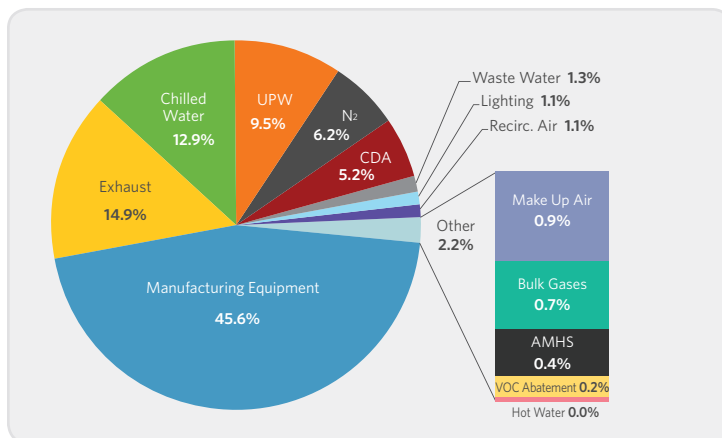
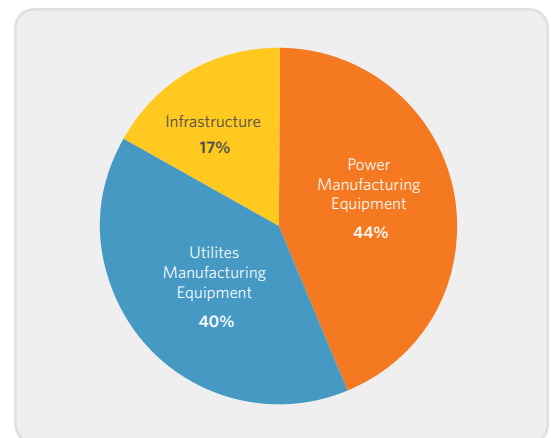

Figure 1. Breakdown of power consumption in a fab by specific application.
Figure 2: Distribution of power consumption in a fab.
Figure 1. An IoT SoC is a highly integrated device that combines an MCU core, mixed-signal peripherals, a multi-protocol wireless transceiver, energy management circuitry, and non-volatile memory into a single die manufactured on mainstream CMOS process technologies.
- The subfab currently consumes more energy and resources than any other part of the production facility (see figure 1).
Figure 1 shows the power consumption of a fab by specific application, while figure 2 shows the major distribution of power in a fab. Note that figure 1 is incomplete to some extent, because, in addition, the consumption of other utilities is primarily driven by the variable needs of the manufacturing equipment.
Figure 1. A wide variety of systems, ranging from smartphones and autos to wearables, rely on trailing-edge devices made on 200mm wafers. (Source: Applied Materials)
Figure 2. TSMC and its joint ventures own the most 200mm wafer fab capacity, while STMicroelectronics, a power in the MEMS sensor field, is the leading 150mm wafer processor. (Source: IC Insights)